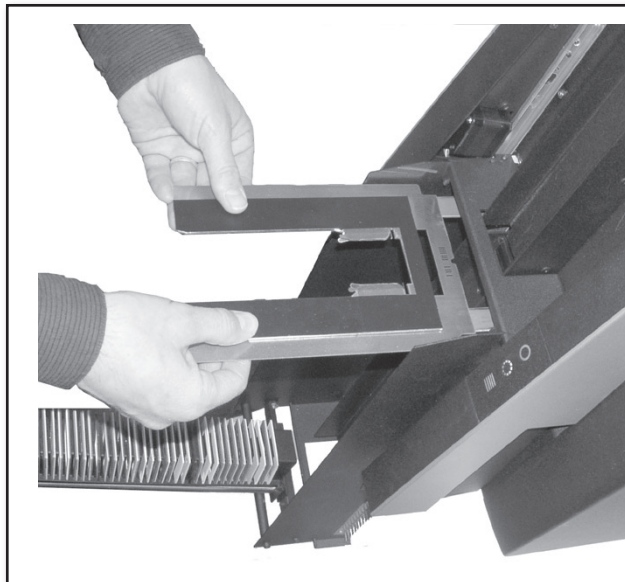

Figure 6: Inserting the Slide original holder.
15. Take the slide holder and position it with the heavy metal plate facing up and the tab facing into the scanner. Hold it with both hands, grasping its lower right and lower left corners respectively as shown in Figure 6 (see page 8).